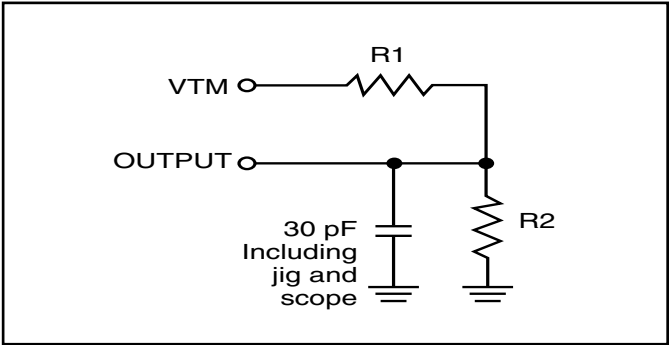

Figure 1.
1. Test conditions assume signal transition times of 5 ns or less, timing reference levels of 0.9V/1.5V, input pulse levels of 0.4 to VDD-0.2V/VDD-0.3V and output loading specified in Figure 1.